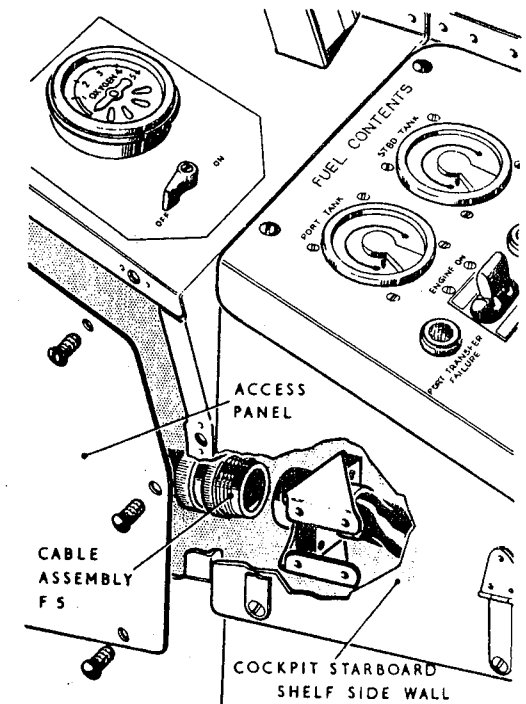

Fig.4 Plug at forward end of cockpit starboard shelf
- (1) Render the aircraft electrically safe, as described in Group A.1.
- (2) Disconnect all the plugs and sockets on the cable assemblies at the end plate at the rear end of the shelf. Seal off the plugs and sockets with approved caps and covers and stow the cable assemblies away from the shelf.
- (3) Disconnect cable assemblies F33 and F34 from the A.C. junction box, fit approved caps and covers to the plugs and sockets and coil back the cable assemblies to the starboard shelf.
- (4) Disconnect cable assembly F5 from the plug mounting bracket at the forward end of the shelf (fig.4). Seal off the plug and socket with an approved cap and cover. Stow the cable